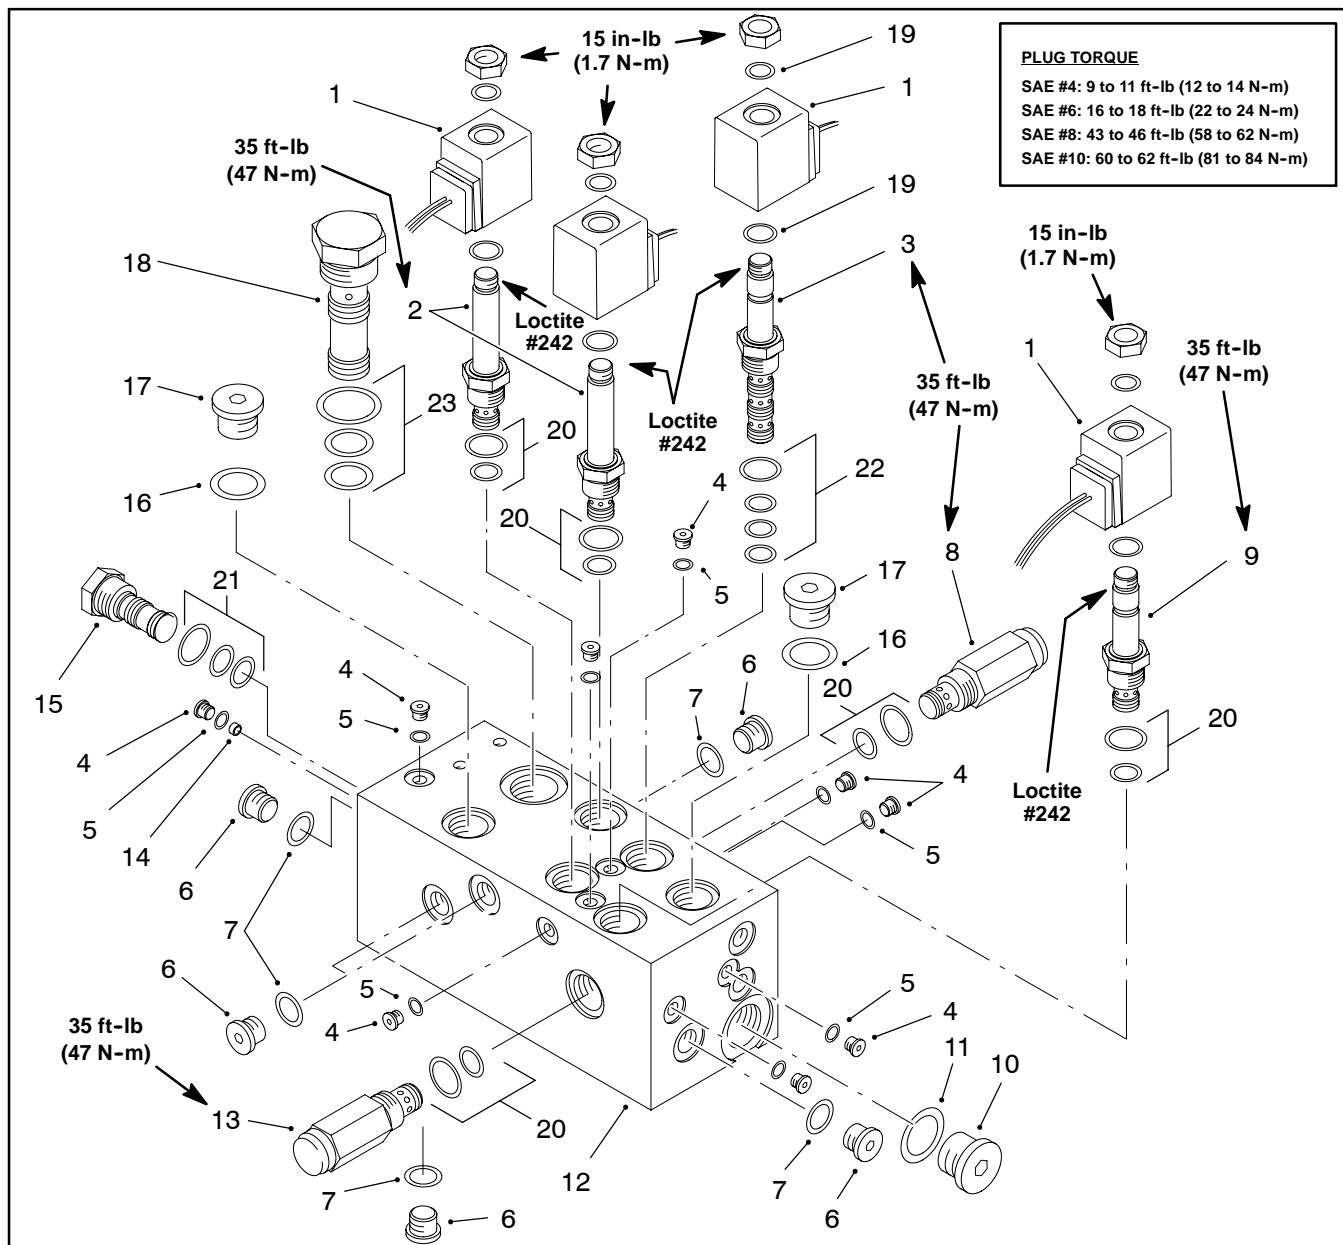

Figure 58
**Note:** Machines with serial number under 260999999 use a hydraulic manifold similar to the one illustrated in Figure 58. For serial numbers above 230001500, an additional solenoid operated cartridge (S6) is included in the manifold. For serial numbers above 240000000, reel speed and backup valves are included in the manifold (see Flow Control and Backlap Valves in this section).
## Solenoid Operated Cartridge Valves (Fig. 58)
## Cartridge Relief Valves (Fig. 58)